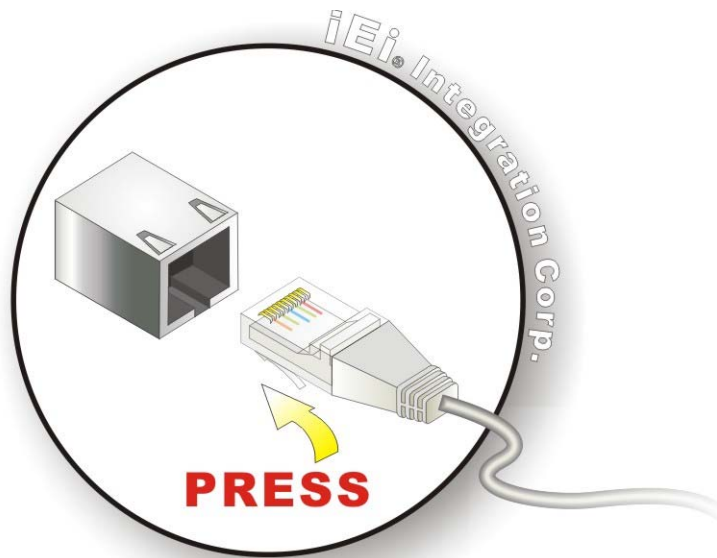

Figure 4-16: LAN Connection
- Step 2:** **Align the connectors.** Align the RJ-45 connector on the LAN cable with one of the RJ-45 connectors on the SPCIE-C2060 Series. See **Figure 4-16**.